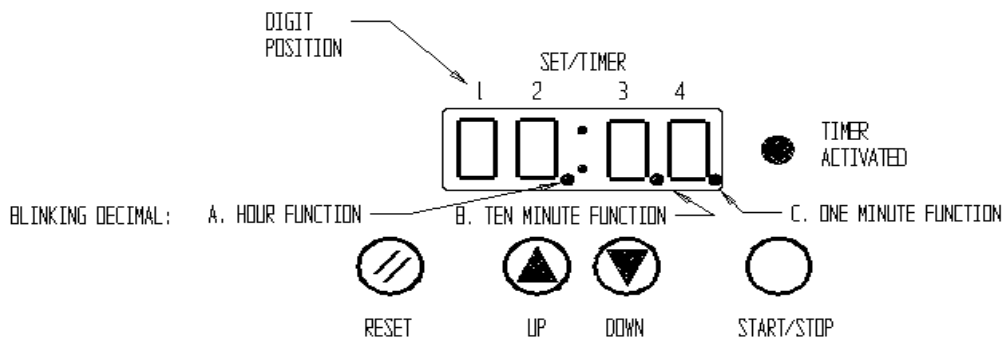

Figure 2
- 6.6 Set Timer Display:** Turn the timer switch to the ON position. The SET/TIMER display digits will light with no lighted decimals showing (**See Figure 2**). Note that, if during any of the following steps, several seconds elapse with no arrow pad or reset pad activity, the timer will default to the present displayed setting and it will be necessary to restart all functions over again. The values must be programmed in a consecutive manner with no delays between settings or the default will occur.